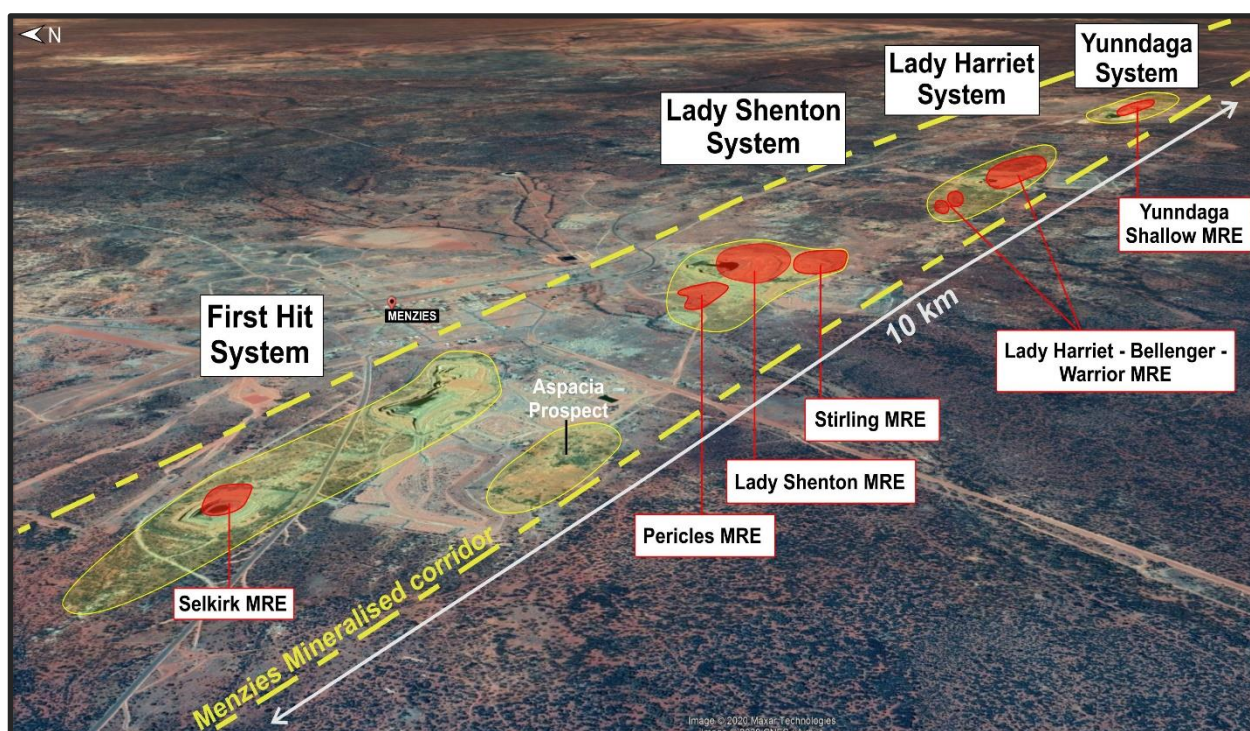

Figure 1: Menzies Gold Project (MGP) aerial view showing the main mineralised systems as well as the Lady Shenton and Stirling MRE locations.
Kingwest Resources Limited ("Kingwest" or "KWR") is pleased to announce significant gold intersections in Reverse Circulation (RC) drilling completed in the current Resource Definition program at its Menzies Gold Project (MGP). 42 RC holes (KWR053 – KWR094) have been completed for a total of 4,004 metres within the First Hit and Lady Shenton Systems (Figure 1). Further assay results will continue to be received over the next few weeks.